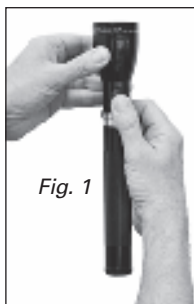

Fig. 1
2. Head - The head houses the reflector and the LED module. The flashlight's Quick-Adjustable Beam operates by rotating the head. About ¼ turn of the head causes the beam to vary between a wide floodlight setting and a narrow spotlight setting (Fig. 1). To remove the head, first remove the face cap and reflector; the head is then free to slide down the barrel. This maneuver provides access to the O-ring seal that is seated in a groove on the outside of the barrel, near the head end, and seals the head-barrel assembly against grit and moisture.